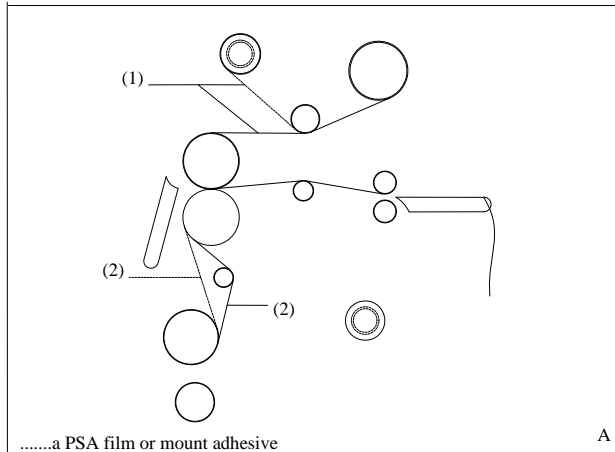

FIGURE 27
1. Cut (1) remaining top film web between the idler bar and heat roller. Cut (2) the film web between the lower film supply and the idler bar (FIGURE 27).